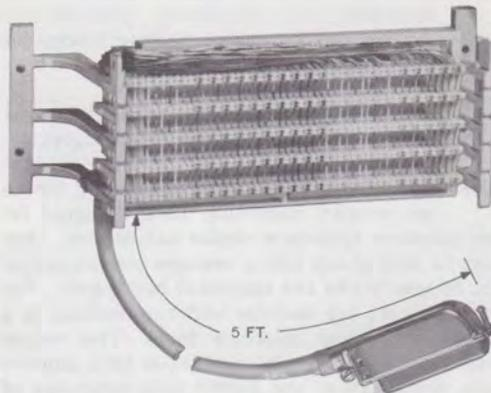

Fig. 2—88B-Type Wiring Block With Connector Cable
- (4) The third suffix numeral assignment is to identify minor design differences resulting from engineering or manufacturing improvement.
- (5) The number following dash indicates number of pairs.
- (6) The letter C following the number of pairs indicates the block is supplied with a factory-wired connector-ended cable 5 feet long (Fig. 2). The blocks are factory-wired to give five multiples for each conductor. On prewired blocks, extra multiples can be provided using the 3-way bridging adapter, KS-19252, L2 (PCP), for no more than ten multiples. Refer to Section 461-200-101 for information on adapters.